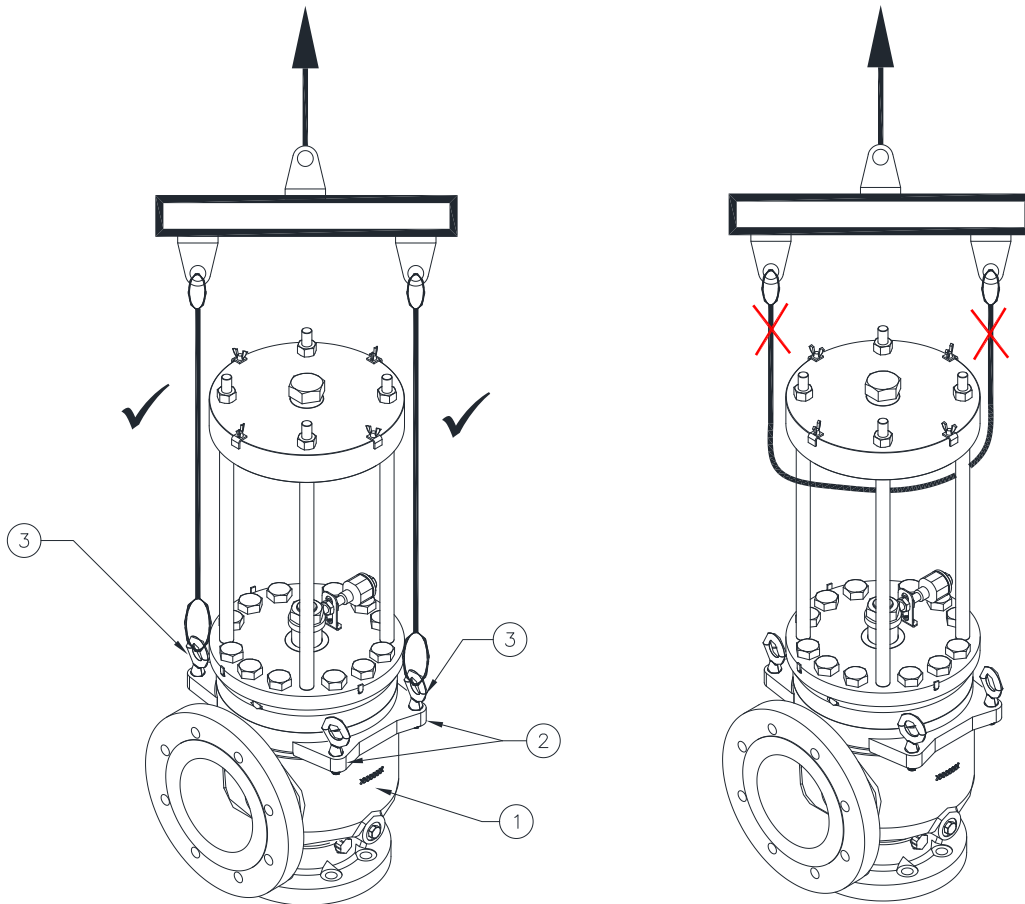

Figure 2: BPAV with Eye Bolts - DO'S and DON'T's for Larger valves
1. All BPAVs are provided with lifting points built-in into its Main body as shown in Figure 2. The lifting points are through holes mounted on the sides of the valve body.